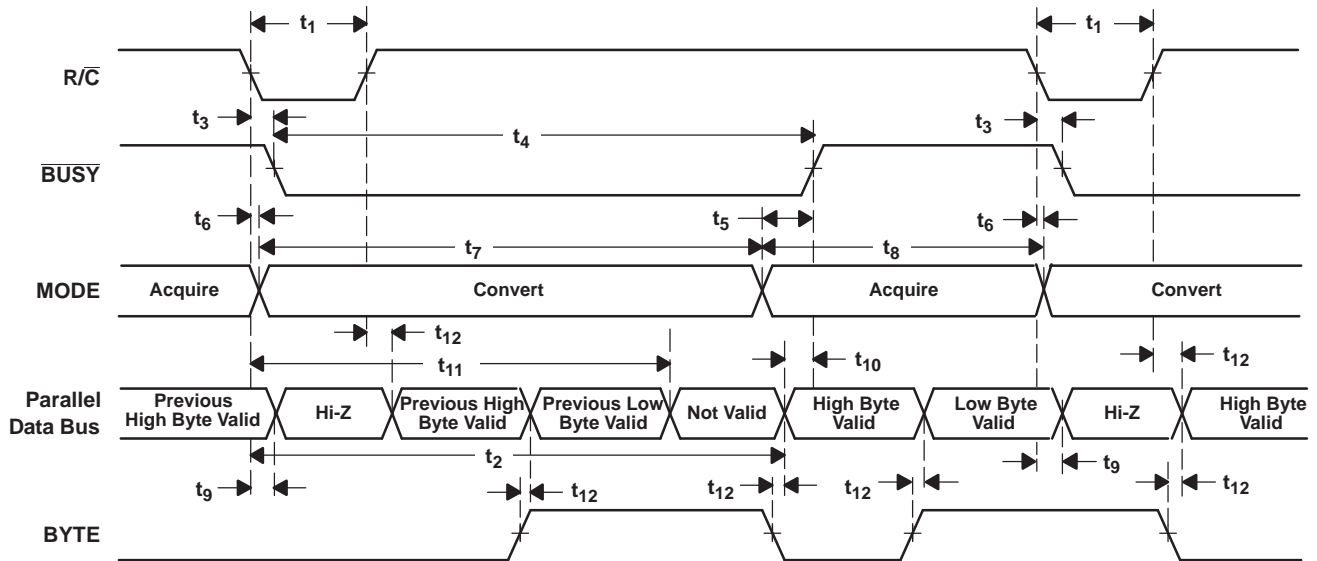
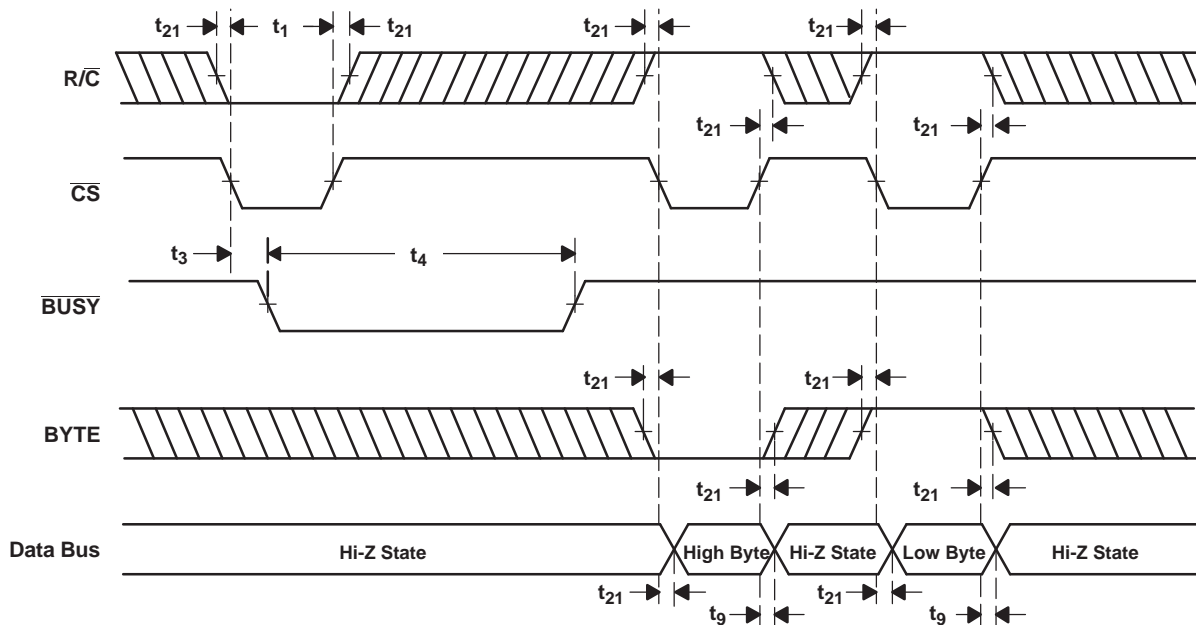

Figure 30. Conversion Timing With Parallel Output ($\overline{\text{CS}}$ and $\overline{\text{DATACLK}}$ Tied Low, EXT/INT Tied High)
Figure 31. $\overline{\text{CS}}$ to Control Conversion and Read Timing With Parallel Outputs
The ADS8517 begins tracking the input signal at the end of the conversion. Allowing 5 μs between convert commands assures accurate acquisition of a new signal. Refer to Table 2 and Table 3 for a summary of $\overline{\text{CS}}$, $\overline{\text{R}/\overline{\text{C}}}$, and $\overline{\text{BUSY}}$ states, and Figure 30 through Figure 36 for timing diagrams.
(1) See Figure 30 and Figure 31 for constraints on data valid from conversion $N-1$.
After conversion *N* is completed and the output registers have been updated, $\overline{\text{BUSY}}$ (pin 24) goes high. Valid data from conversion *N* are available on D7-D0 (pin 9-13 and 15-17). $\overline{\text{BUSY}}$ going high can be used to latch the data. Refer to Table 5, Figure 30, and Figure 31 for timing specifications.
After conversion N has been initiated, valid data from conversion $N-1$ can be read and are valid up to $2.2\ \mu\text{s}$ after the start of conversion N . Do not attempt to read data beyond $2.2\ \mu\text{s}$ after the start of conversion N until $\overline{\text{BUSY}}$ (pin 24) goes high; doing so may result in reading invalid data. Refer to Table 5, Figure 30, and Figure 31 for timing constraints.